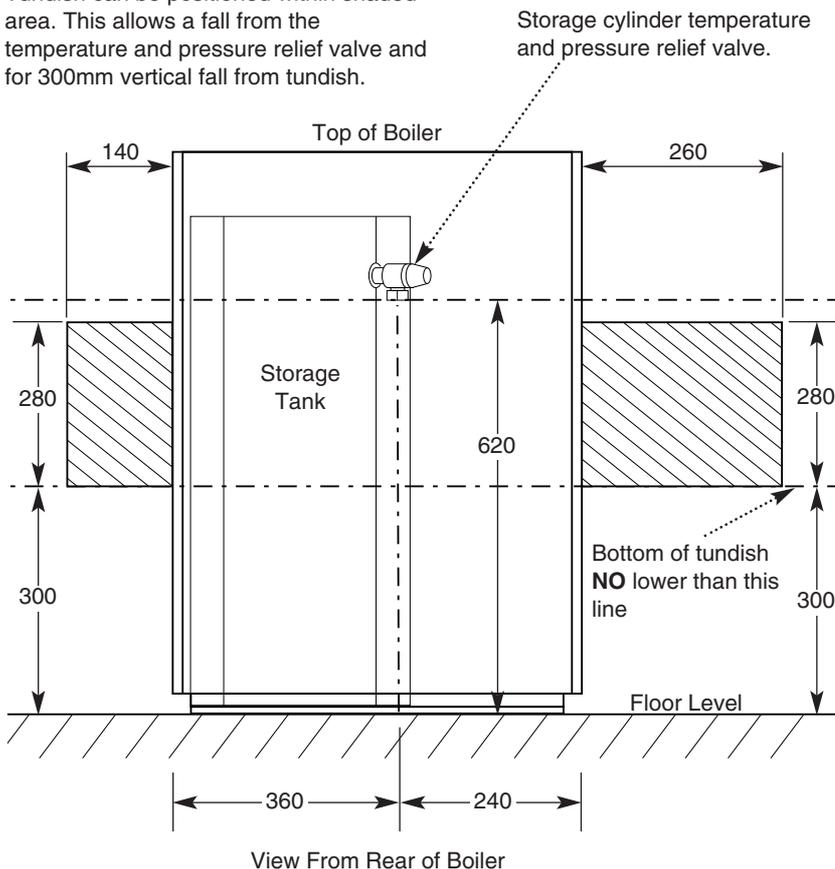

Fig. 33
### 8.7 Positioning the Tundish (Fig. 33)
5. The tundish can be positioned in the shaded areas as shown in Fig. 33. Refer also to the instructions supplied with the Unvented Kit and Building Regulations Document G3.